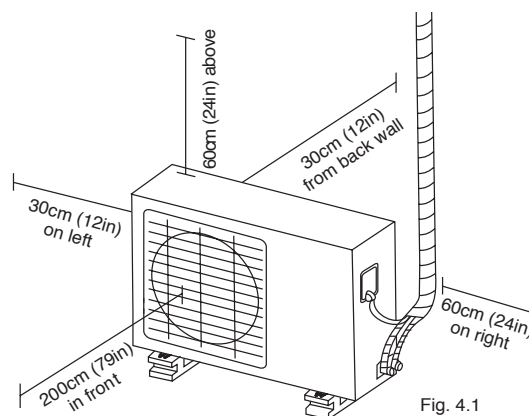

Fig. 4.1
- Meets all spatial requirements shown in Installation Space Requirements (**Fig. 4.1**)